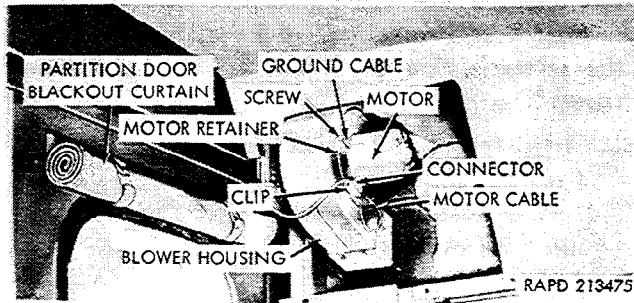

Figure 3-5. Removal or installation of ventilator blower motor.
a. Remove blower motor (Fig. 3-5 and 3-6).
(1) Remove the five lockwasher screws that secure the blower inspection cover in the driver's compartment, and remove the cover.
(2) Disengage the motor cable connector from the connector clip, and disconnect the cable at the connector.
(3) Remove the five screws that attach the motor retainer to the blower housing (one of the screws attaches the motor ground cable and another the cable connector clip). Pull the motor and retainer from the blower housing.
(4) Loosen the setscrew that secures the blower wheel on the motor shaft, and remove the wheel.
(5) Remove the nut, lockwasher, plain washer, and grommet from each of the two studs in the motor, and remove the motor retainer and motor gasket.
b. Install Blower Motor (figs. 3-5 and 3-6). Be sure to install the correct motor for the blower being serviced (a above).
(1) Position the motor gasket and the motor retainer over the shaft end of the motor. Install a motor grommet, a plain washer, a lockwasher, and a nut on each motor stud, and tighten the two nuts.
(2) Place the blower wheel on the motor shaft with the open end of the wheel away from the motor.